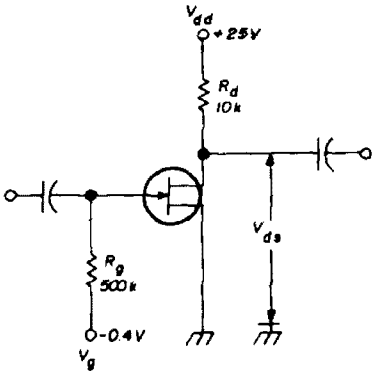
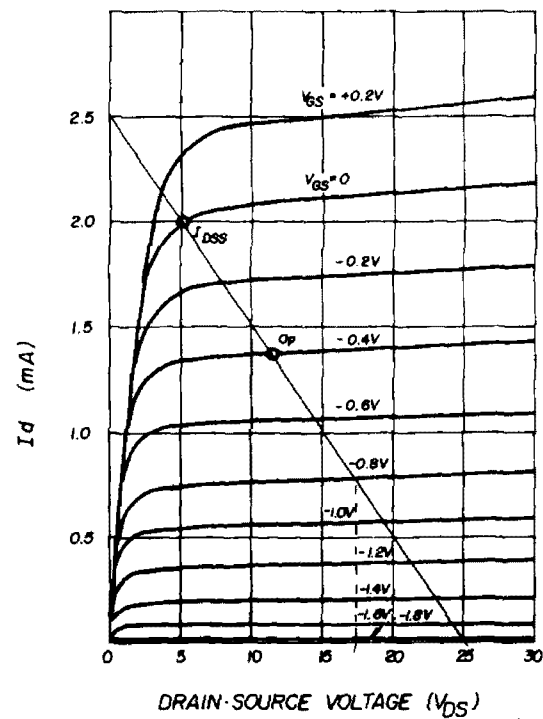
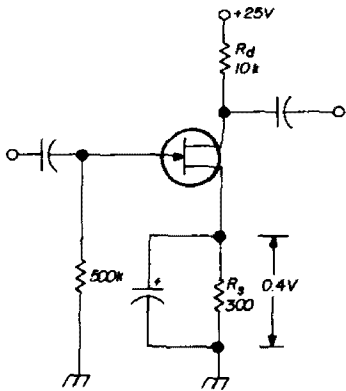
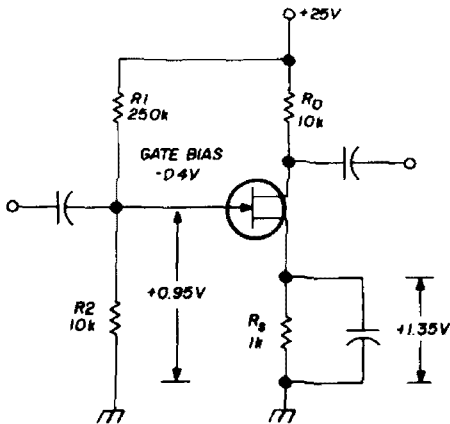

fig. 4. A circuit with external bias to meet the conditions of fig. 5.
fig. 5. Fet family of curves with load line.
fig. 6. Self-bias circuit for the conditions of fig. 5.
fig. 7. Compensated and stabilized bias for the conditions of fig. 5.
The operation of the circuit of fig. 4 can be disclosed by drawing an appropriate load line on the family of curves, fig. 5. As shown the supply voltage is +25. If on the peak of the input signal, the drain current is to rise to the saturation current on the zero-bias curve, the load line must be drawn between this point and +25 on the zero drain-current axis. If the load line is continued to the zero drain voltage axis, it is possible to determine the ohmic value of the load line:
This load line condition is matched by connecting a 10,000 ohm resistance in the drain circuit, fig. 4.
A suitable operating point can be found along the load line. The best gain is obtained by using a low bias provided the input signal is not great enough in amplitude to overdrive the transistor. The operating point of fig. 5 is satisfactory for an input signal of 0.4 volts peak. Operating point bias is -0.4 volts; drain current 1.35 mA and drain voltage, about 11.25 volts. An operating-point gate bias of
-0.4 volts is applied externally in the circuit of Fig. 4.
Self-bias using the circuit of fig. 6 can be used to establish the same operating conditions. Inasmuch as the operating-point drain current and gate bias are known, it is possible to determine the proper value for the source resistor. Source resistor value for the circuit of fig. 6 and the operating conditions given in fig. 5 is:
Two factors have a significant influence on bias requirements. One is the production spread which may be such that the saturation current Idss may have a ratio of 3-to-1 or higher. In the typical example of fig. 5, it may be that the Idss value will not be 2 mA, but may have a high of 3 mA and a low of 1 mA. Temperature drift is the second factor — both warm-up operating point
ature are pronounced when only external gate bias is used. Self-biasing is much more self-adjusting because a shift in operating point drain current is compensated by the change in bias produced by the change of current in the source resistor. However, even better operating-point stabilization can be obtained with a further increase in the ohmic value of the source resistor. Normally this would result in an improper bias, but a combination of gate-divider bias and a higher value of source bias can be used to set-up the operating-point of fig. 5. This is done by using positive gate voltage instead of negative, however. In fact, the circuit in fig. 7 is similar to that used in a bipolar transistor circuit but for quite a different reason as you learned.
Note that this is substantially higher than the desired 0.4-volts bias, fig. 5. Hence, to
"While fig. 5 is reasonable for an experiment, it should be noted that simply leaving TTL inputs floating is not a reliable means of insuring that they are high. Pins 1 and 2 ought to each be tied up to +5 V through 1k resistors.